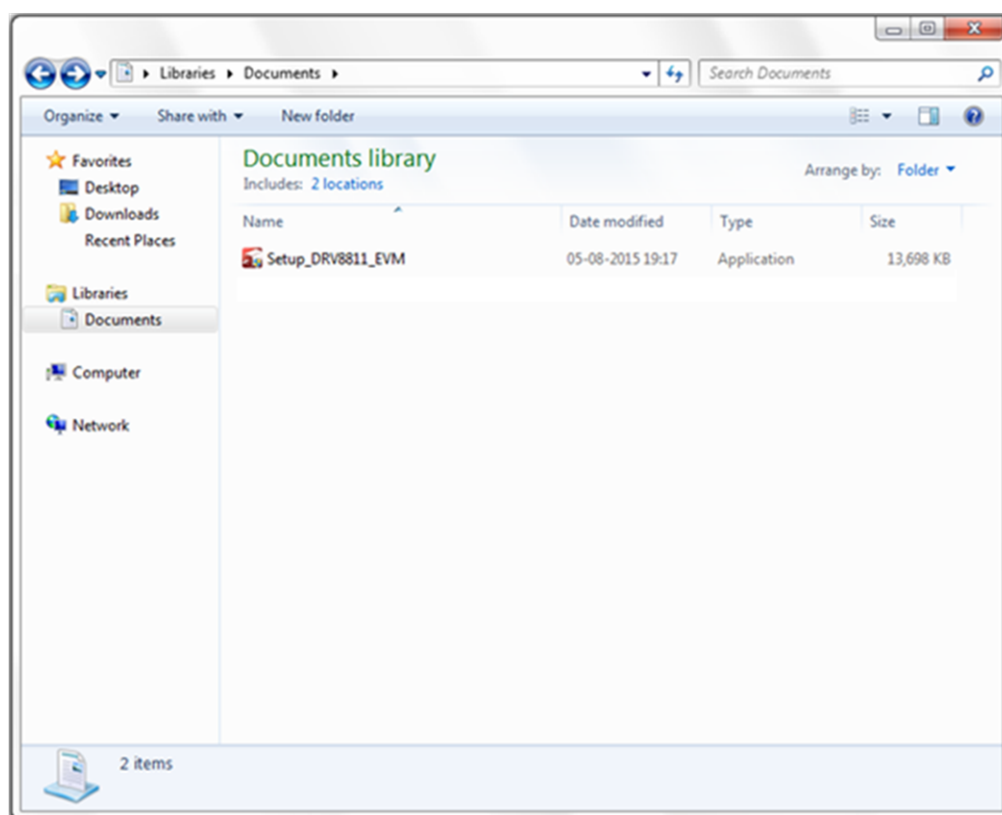

Figure 3. Setup_DRV8811_EVM.exe
1. Double click on the **Setup_DRV8811_EVM.exe** as shown in Figure 3.